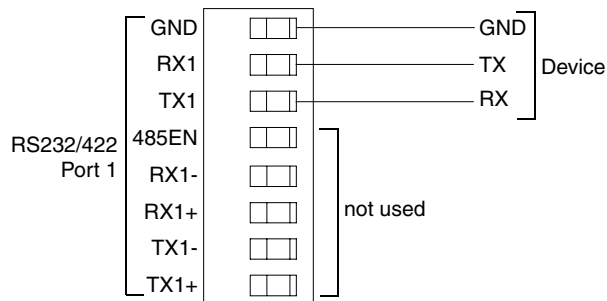

FIG. 4 RS-232 Port 1 wiring
1. Connect the RS-232 wiring to Port 1, as shown in FIG. 4.